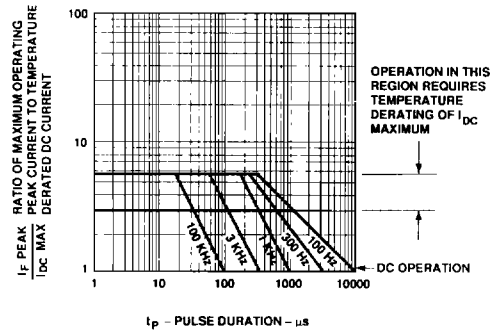

Figure 8. Maximum Tolerable Peak Current vs. Pulse Duration - Yellow Series.
- See Figure 8 to establish pulsed conditions.